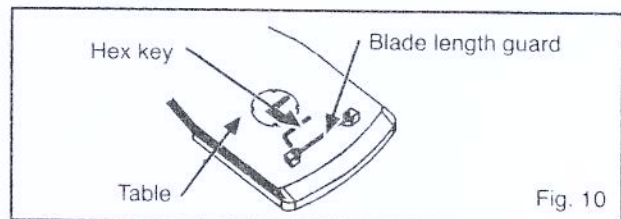

Fig. 10
- Put the blade and blade adaptor into blade length gauge and use hex key to tighten the screw in blade adaptor. See figure 10.